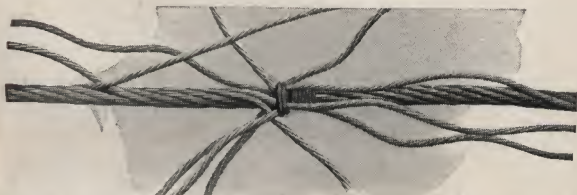

Fig. 4. Rope in a finger lock position with one strand laid in rope.
2. Take any one strand and unlay from one end, following the seam of grooves vacated by the strand in the opposite end. When the distance of the splice has been reached, assuming it to be 16 inches on a 16-ft. splice, cut off the ends of both strands at equal length as shown in Fig. 4.